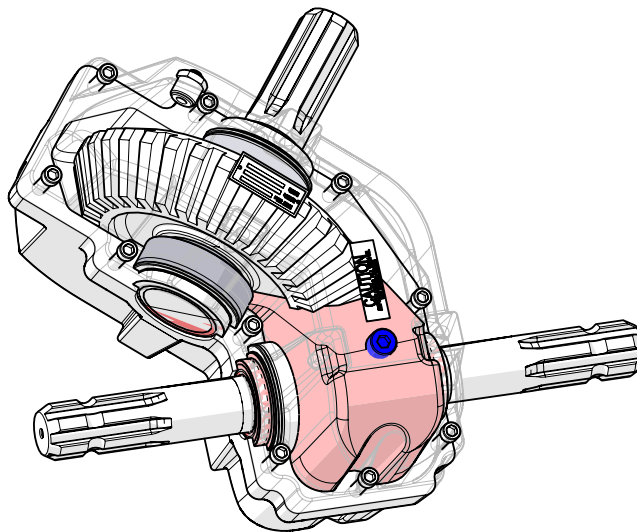

Figure 4
**3-WAY FRONT GEARBOX:** Gearbox lubricant has been added to the gearbox during final assembly. Recheck the lubricant level before initial operation of the grain cart, then periodically according to use. The fluid level should rest at the inspection plug, pictured in blue in Figure 4 below. When filled to the proper level, the gearbox should have 96 ounces of SAE 80W-90 lubricant. Change the oil annually before use.